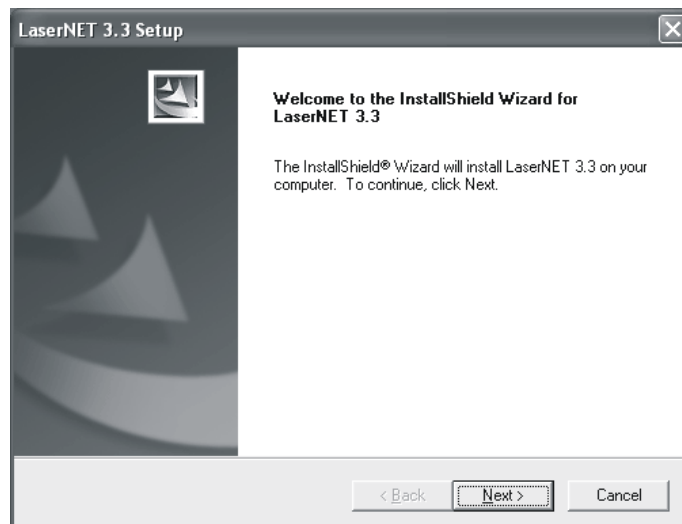

Figure 1-5. Welcome Screen
4. After InstallShield® Wizard is finished processing, the Welcome screen will appear (Figure 1-5). Read all of the instructions carefully before proceeding. When finished, click on the **<Next>** button to proceed to the next screen.